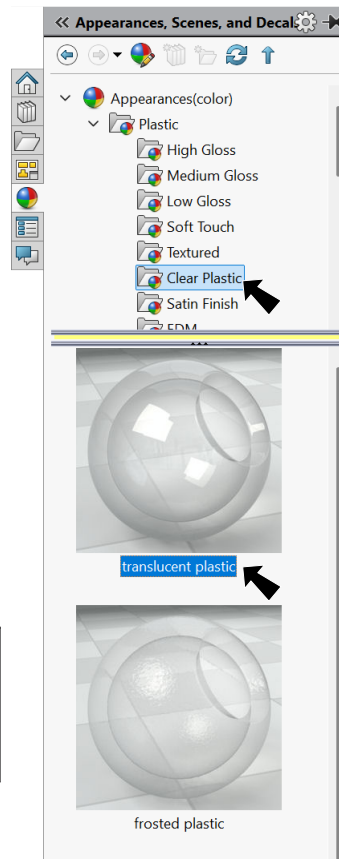

Fig. 36
Step 3. In the Appearances Task pane, expand **Plastic**, click **Clear Plastic** and in the lower pane select **translucent plastic**, Fig. 36.